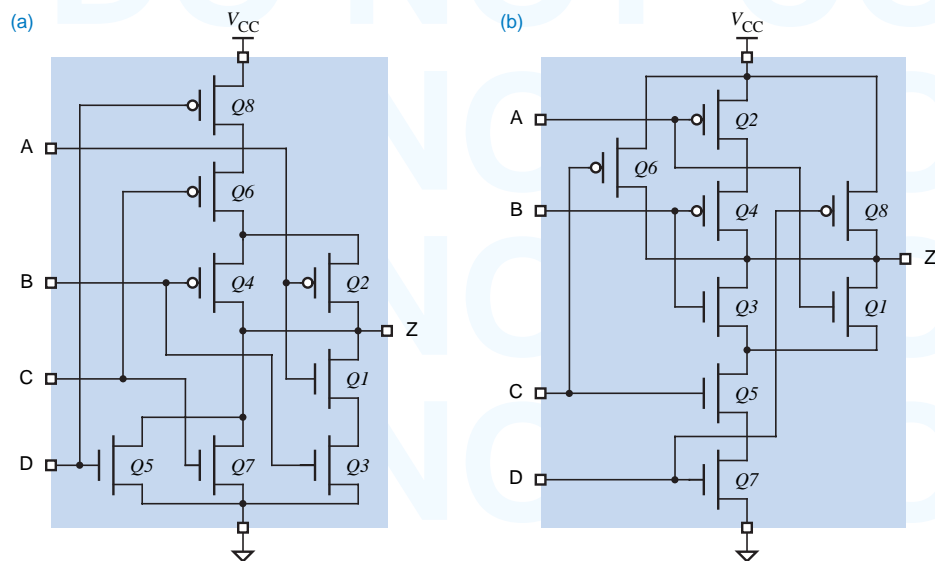

Figure X3.16
- 3.16 The circuit in Figure X3.16(a) is a type of CMOS AND-OR-INVERT gate. Write a function table for this circuit in the style of Figure 3-15(b), and a corresponding logic diagram using AND and OR gates and inverters.
- 3.17 The circuit in Figure X3.16(b) is a type of CMOS OR-AND-INVERT gate. Write function table for this circuit in the style of Figure 3-15(b), and a corresponding logic diagram using AND and OR gates and inverters.